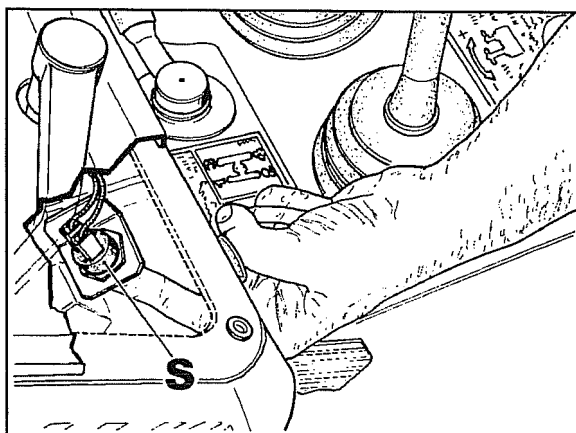
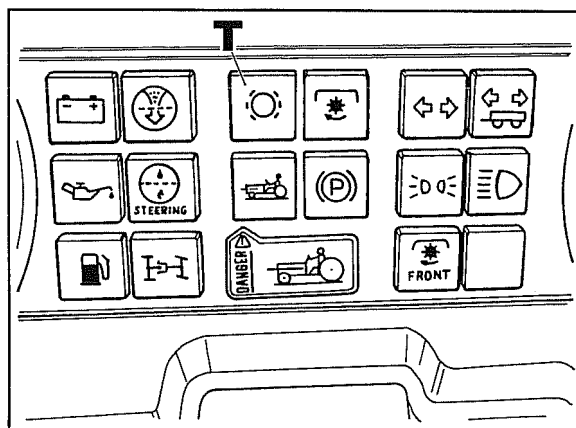

Fig. 10
Fig. 11
- NB** - Sensor electric efficiency need not be tested because a short circuit would be signalled by LED **T** fig. 11 on the central control unit with two flashes followed by a pause. In this case, change the sensor.
- 14 The ignition is on, press reset button **S** fig. 10 through the PTO clutch lever slot and hold the button down until LED **T** fig.11 stops flashing.